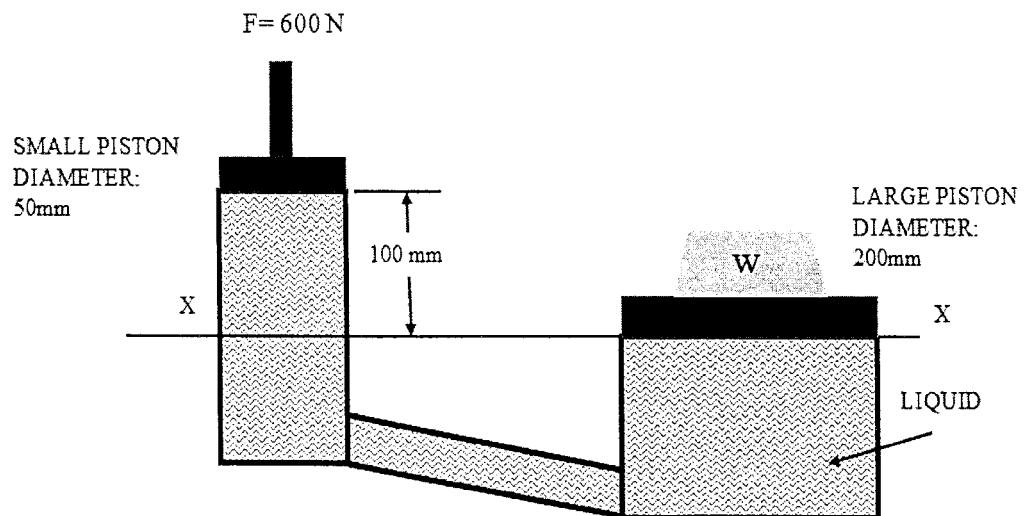

Figure 2(b) / Rajah 2(b)
- b) A force of 600 N is applied on the small piston for the hydraulic jack system shown in Figure 2(b). Compute the load lifted by the large piston if the specific weight of the liquid in the jack is 9810 N/m^3 .